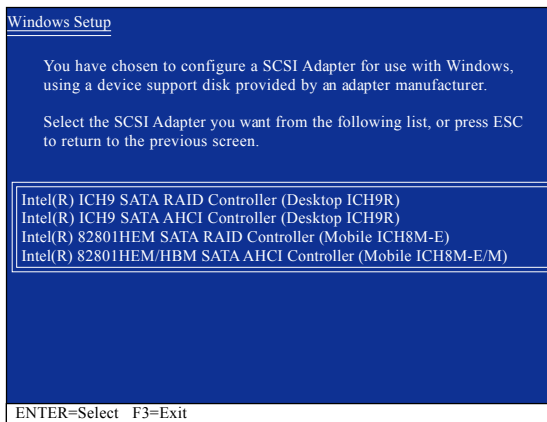

Figure 3
When Setup correctly recognizes the Intel ICH9R SATA RAID/AHCI driver in the floppy disk, a controller menu similar to Figure 3 below will appear. Use the arrow keys to select one of the items displayed and press <Enter>. If you set the **SATA RAID/AHCI Mode** item in BIOS Setup to RAID mode, select **Intel(R) ICH9 SATA RAID Controller (Desktop ICH9R)**. (Select **Intel(R) ICH9 SATA AHCI Controller (Desktop ICH9R)** for AHCI mode.)